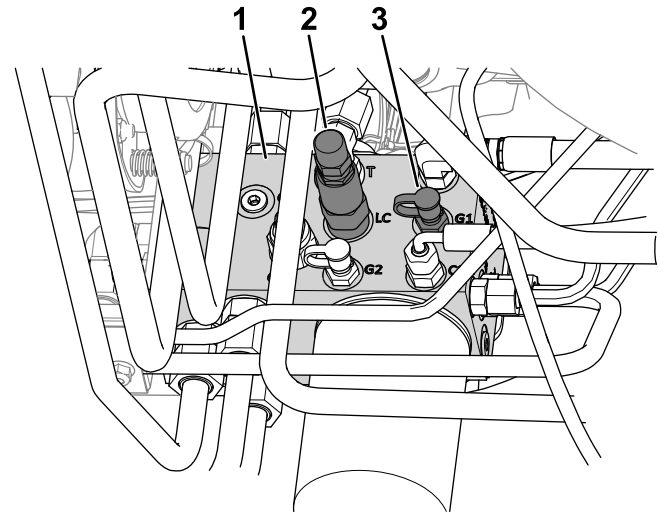

Figure 21
- Connect a pressure gauge to the test port (labeled G1; refer to Figure 21).
- Weight-transfer spool (LC)
- At the side of the lift manifold, remove the cap from the test port (labeled G1; refer to Figure 21).
- Loosen the jam nut at the end of the weight-transfer spool (labeled LC; refer to Figure 21).